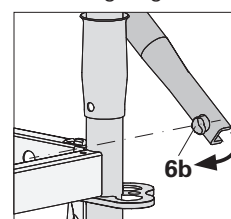

Fig. A1.04c
2. Install horizontal ledger (3).
4. Install one ledger brace (6) externally from the bottom left to top right.
- Insert finger (6b) into the hole of the bottom horizontal ledger at an angle. (Fig. A1.04c + A1.04d)